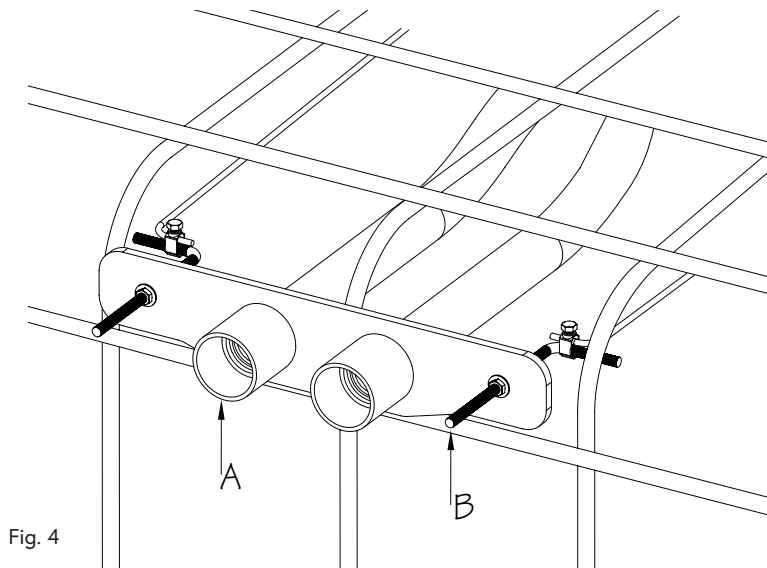

Fig. 4
3. Prior to shooting gunite, it is CRITICAL that the openings of the PVC Couplings (A) and Threaded Rods (B) are covered. Gunite cannot be embedded in these areas (Fig. 4).